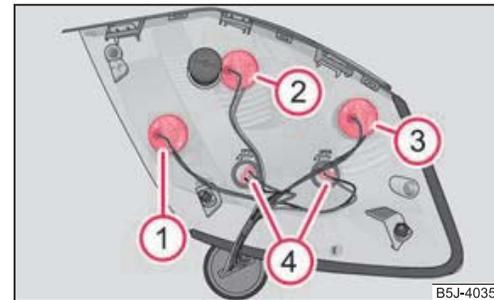

Fig. 178 Rear light unit: Fitting position of the bulbs
- To replace a light bulb, turn the bulb connector of the light bulb to the left (in the direction of the arrows on the housing) and take it out of the housing ⇒ fig. 178 right.
Fitting position of the light bulbs in the rear light unit ⇒ fig. 178